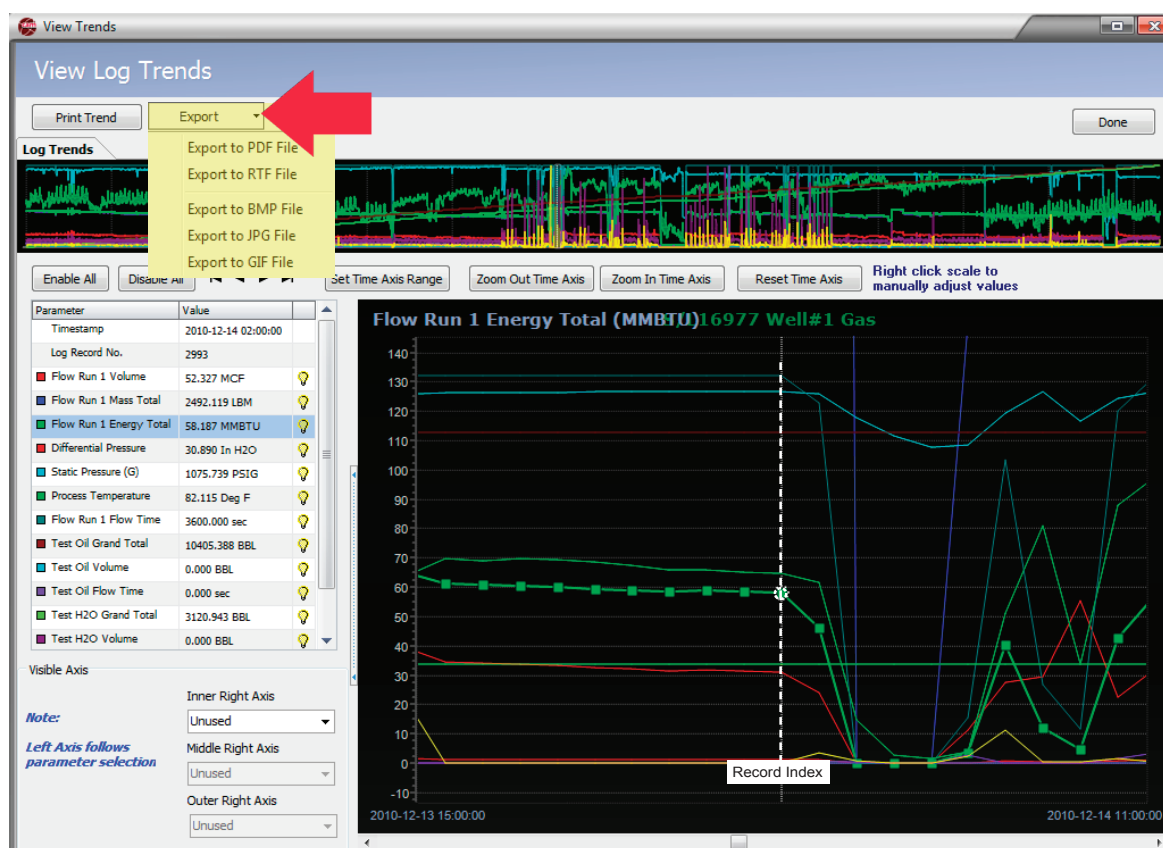

Figure 3.11—Log Trend view showing Export button and dropdown menu
4. When the trend image is exactly as you want the export file to appear, click on the **Export** button at the top left of the *View Log Trends* dialog (Figure 3.11).